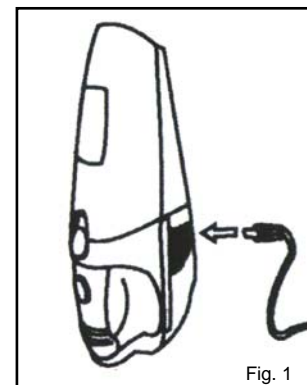

Fig. 1
4. The charging indicator light will shine green to indicate that the vacuum cleaner being charged. (See Fig. 1)